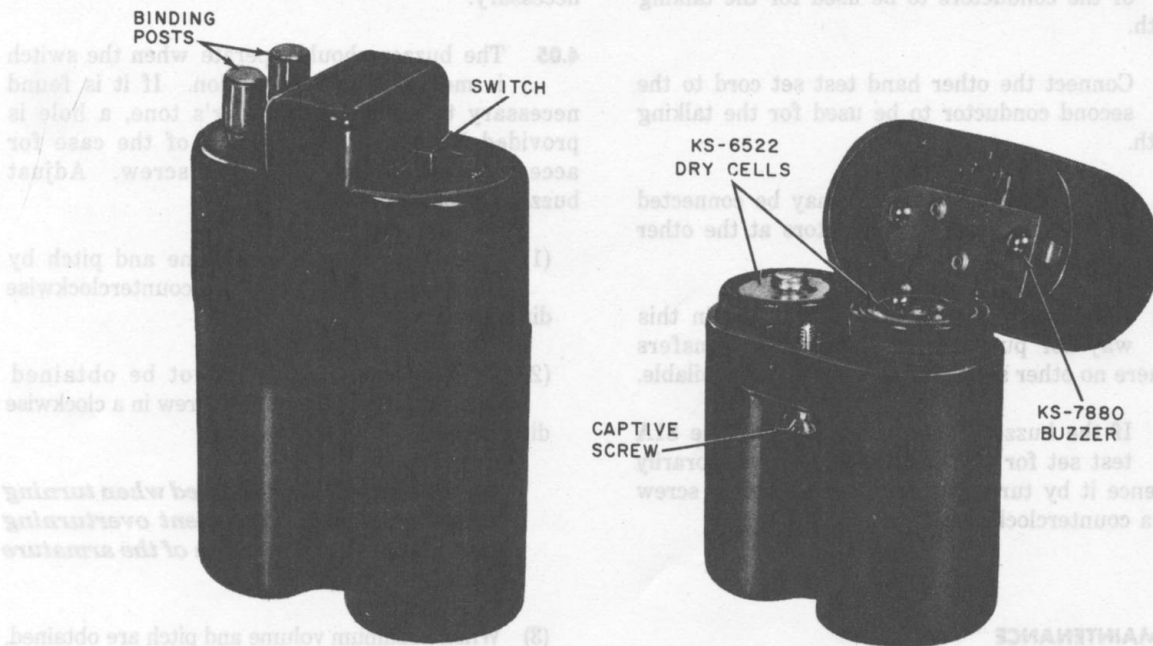

Fig. 1—The 81A Test Set, Closed and Open
2.01 The 81A test set (Fig. 1) consists of a buzzer, capacitor, and switch which are contained in a case made of insulating material. The case is equipped with two spring-type binding posts to which the test leads may be connected. Space is provided within the case for two KS-6522 (standard flashlight) dry cells.
- 4.04 The battery cells must be placed in the test set in series: one right side up and the other upside down (Fig. 1). The battery contact spring may be removed readily for cleaning if necessary.